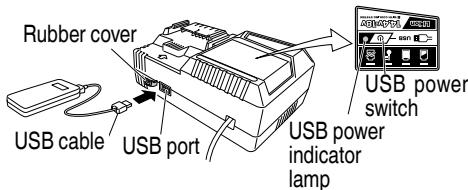

Fig. 10
## (2) Turn the USB power switch ON (Fig. 10)
## (3) Connect the USB cable. (Fig. 10)
- Turn the USB power switch OFF and unplug the power cord from the electrical outlet. (Fig. 10)